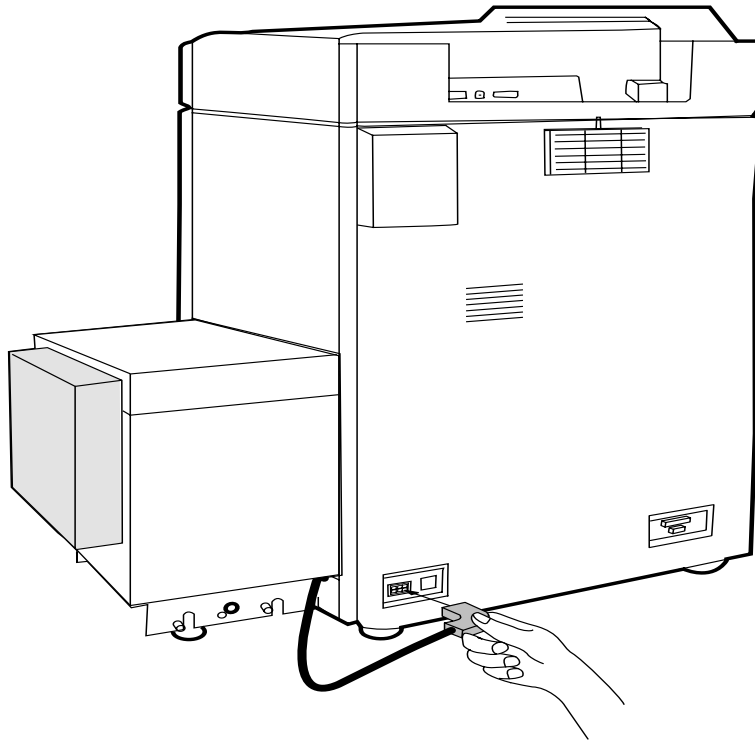

Figure 4-10 HCI Signal Connection
3. Plug the cable from the HCI into the connector on the rear lower left of the printer, as shown in Figure 4-10.